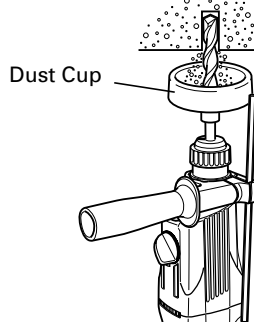
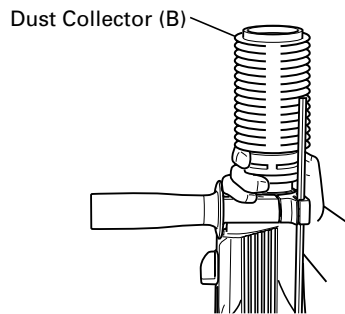

Fig. 3
Fig. 4
## 7. Installation of dust cup or dust collector (B) (Optional accessories) (Fig. 3, Fig. 4)
Use the dust cup by attaching to the drill bit as shown in Fig. 3.
When using dust collector (B), insert dust collector (B) from the tip of the bit by aligning it to the groove on the grip (Fig. 4)